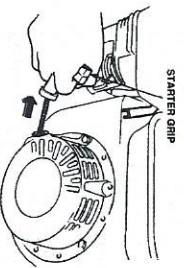

Figure 23. Starter Grip
- If starting your welder-generator by the *recoil start method* (no battery), place the operational switch in the **ON** position, then grasp the starter grip (Figure 23) and slowly pull it out. The resistance becomes the hardest at a certain position, corresponding to the compression point. Pull the starter grip briskly and smoothly for starting.